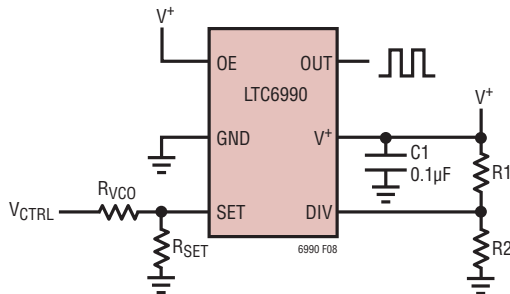

Figure 11. Voltage Controlled Oscillator
Operating the LTC6990 as a voltage-controlled oscillator in its simplest form is achieved with one additional resistor. As shown in Figure 11, voltage V_{CTRL} sources/sinks a current through R_{VCO} to vary the I_{SET} current, which in turn modulates the output frequency as described in Equation (2).